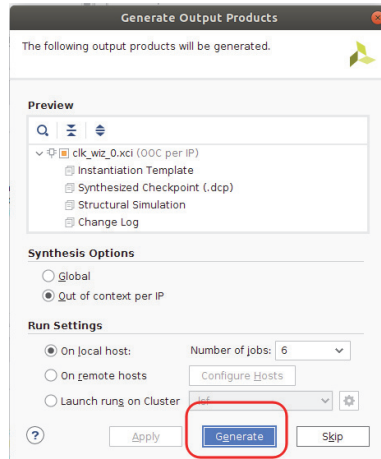

Fig. 4: Add Clocking Wizard IP core to generate 5MHz from 100MHz
4.1.3 Add a Clocking Wizard IP core (which generates 5MHz clock for PWM from 100MHz input clock). Steps are shown in Fig. 4. After that a defined instance “clk_wiz_0” in clk_divider.v will work properly.